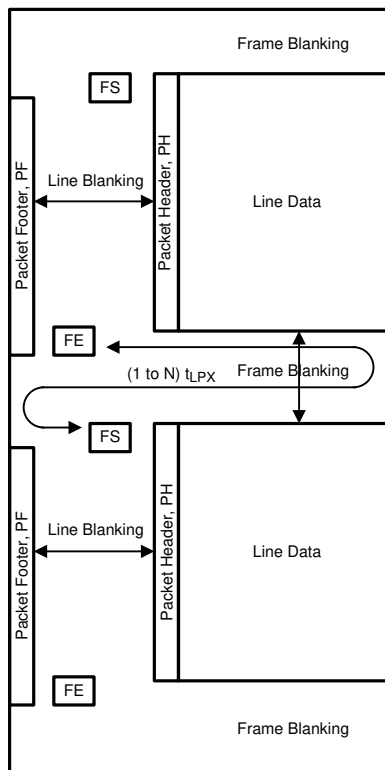

Figure 30. CSI-2 General Frame Format
The DS90UH940-Q1 (in default mode) takes RGB 24-bpp data bits defined in the serializer and directly maps the bits to the pixel color space in the data frame. The DS90UH940-Q1 follows the general frame format as described per the CSI-2 standard (Figure 30). Upon the end of the vertical sync pulse (VS), the DS90UH940-Q1 generates the frame end and frame start synchronization packets within the vertical blanking period. The timing of the Frame Start will not reflect the timing of the VS signal.